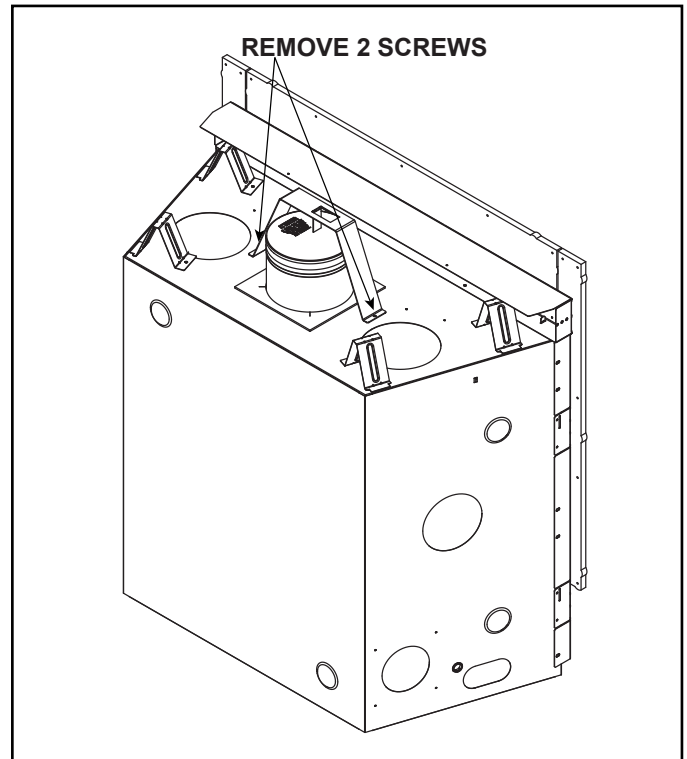

Figure 6.3 COSMO32-IFT-B - Shipping Support in Shipping
1. Remove two screws to remove shipping support. Discard shipping support. See Figure 6.3.